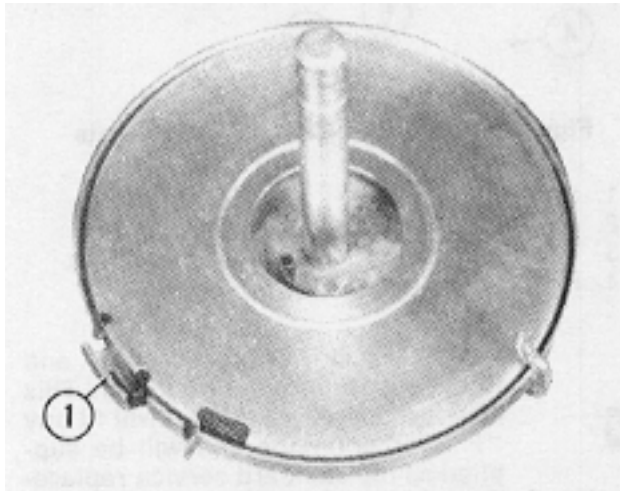

Figure 21 Proper Spring/Retainer Position
Assemble Spring/Retainer into Cup so that Starter Spring Hook is beneath the Protective Flange (1) as shown in Fig. 21.